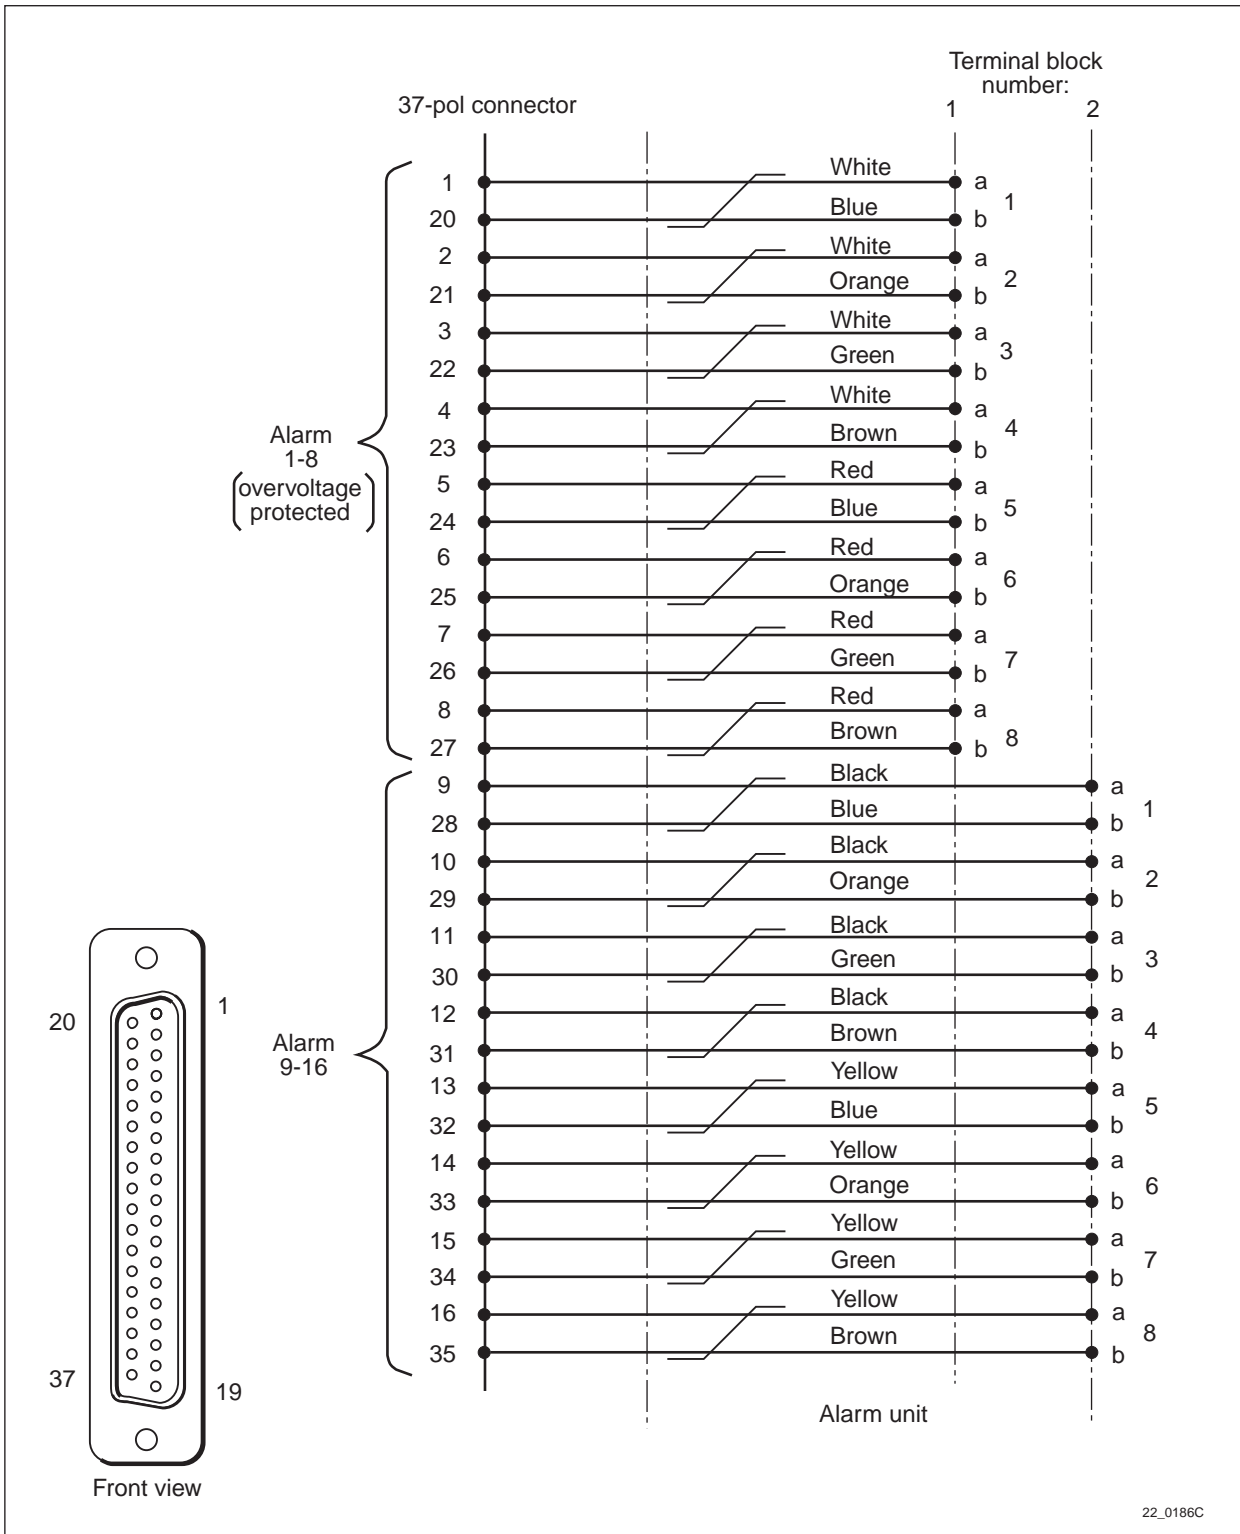

Figure 3 Connection of the connection cable (pos 40) to the terminal blocks 1 and 2
7. Distribute the wires over the connection slots of the terminal blocks 1 and 2 according to the colour code connection table for the external alarms cable in figure 3.